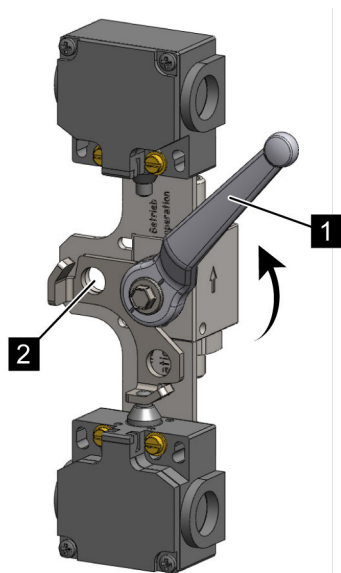

Fig. 26: Resetting the isolation (optionally with 1 or 2 limit switches)
3. ➤ Open and remove the padlock at the locking eye (Fig. 26/2) of the blocking device.
4. ➤ Turn the ball valve (Fig. 26/1) of the blocking device as far as it will go in counterclockwise direction (Fig. 26/arrow).
5. ➤ Hook the padlock into the locking eye (Fig. 26/2) of the blocking device and lock it.